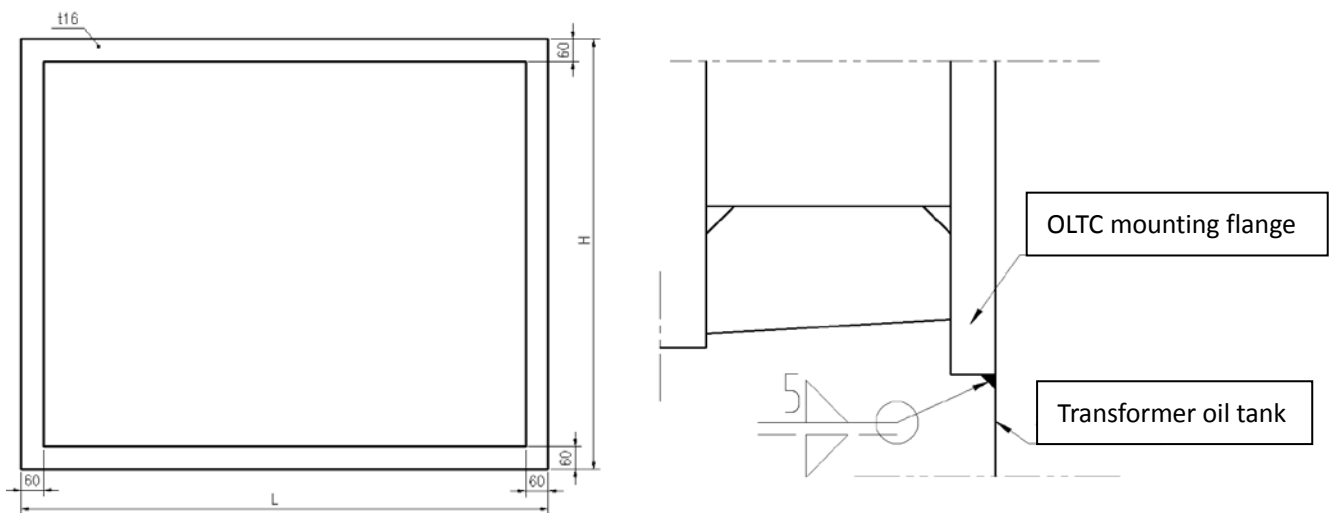

Fig. 5 Direct fixation of transformer tank and tap changer Fig. 6 Welding chart
4.1.1. Transformer tank is directly welded and fixed with tap changer compartment.(See fig. 5):